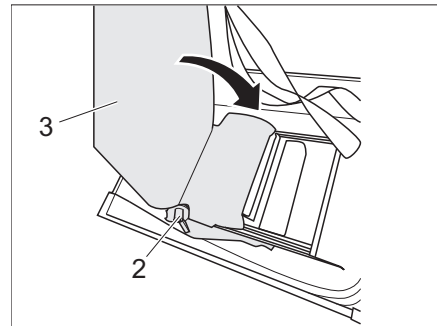

Fig. 214 Stow the seat back in the bench
- Engage lever 1 (Fig. 214,2) and fold the seat back (Fig. 214,3) inwards.